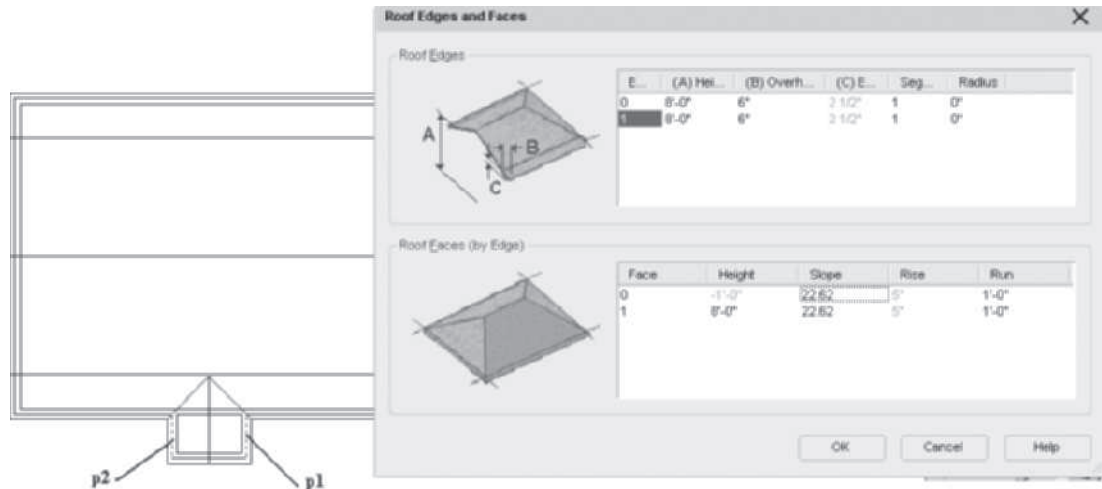

FIGURE 7.22 Creating equal slope for upper and lower faces
15. In this and the following step the slope of each face of the edges is modified to create a single slope shape. Select the roof, right-click, and choose **Edit Edges/Faces** from the shortcut menu. Select edges at **p1** and **p2** as shown in Figure 7.22. Press ENTER to open the Roof Edges and Faces dialog box.
16. Select **Edge 0** in the **Roof Edges** section of the Roof Edges and Faces dialog box. Click in the **Slope** column of Face 0 and change the slope to **22.62 [21.80]**. Select **Edge 1** in the **Roof Edges** section and change the slope of Face 0 to have a slope of **22.62 [21.80]**, as shown in Figure 7.22. Click **OK** to dismiss the Roof Edges and Faces dialog box. Press Escape to end selection.